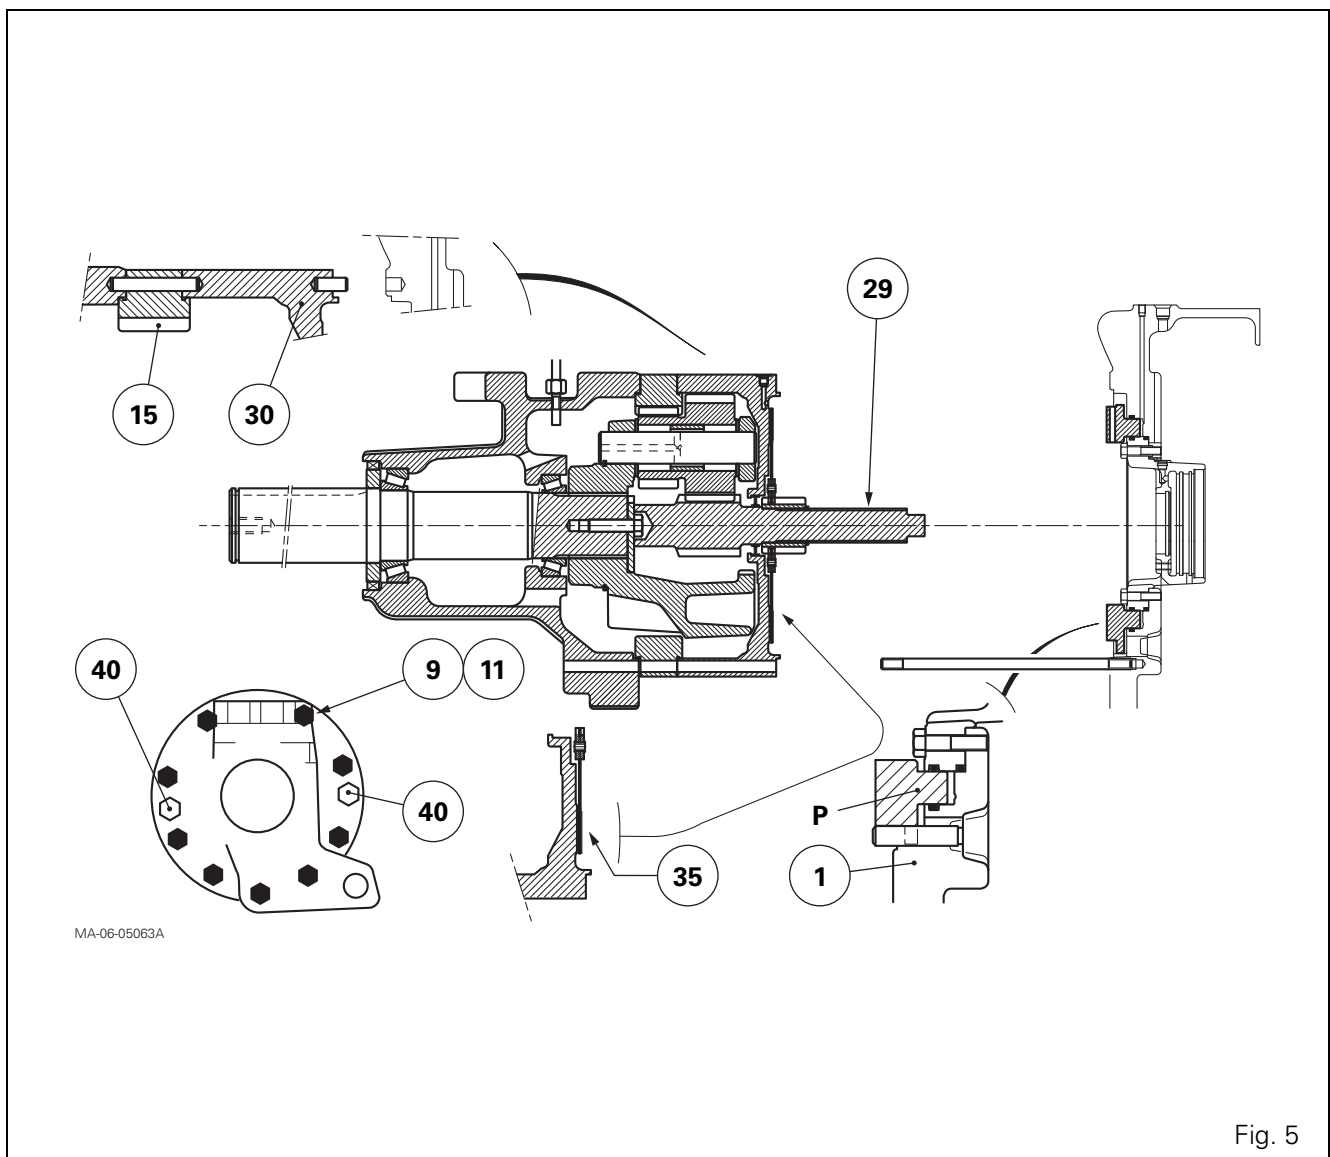

Fig. 5
- Split the trumpet housing assembly from the centre housing (Fig. 5).
IMPORTANT: Take care not to press the brake pedal to avoid driving out the P piston from the centre housing (Fig. 5).